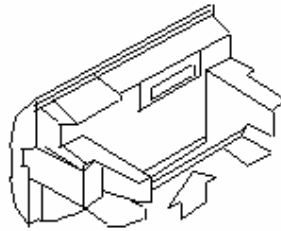

Fig.2-6
- (3) Take down the paper roller from the printer (see Fig.2-6), if there has paper on the printer, then can jump this step to fifth step;